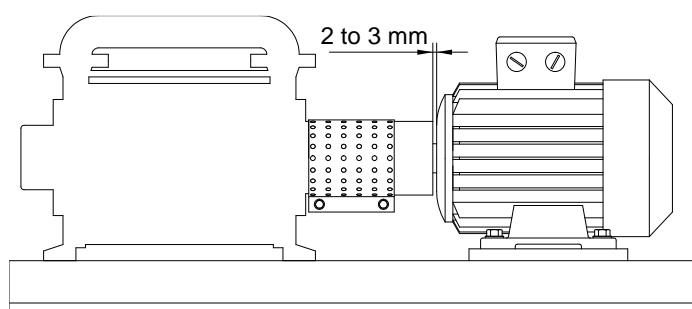

Fig. 15
- 11 - Install the coupling guard and its extension (if applicable) on the pump, secure the two locking bolts. The gap between motor frame and the guard should not be greater than 2 to 3 mm (see fig. 15).